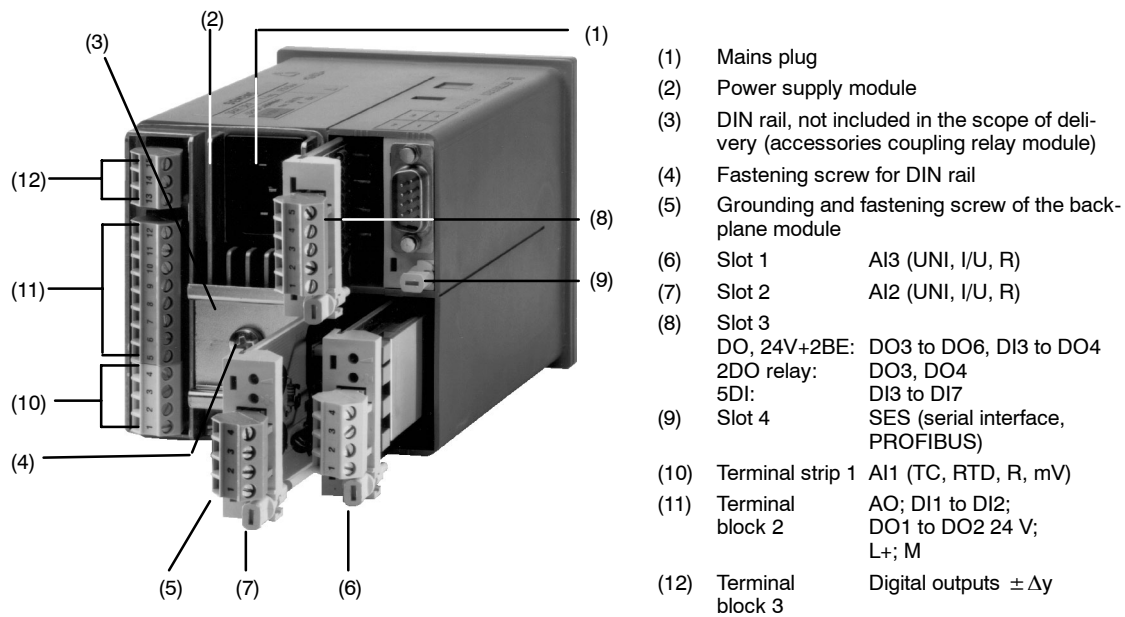
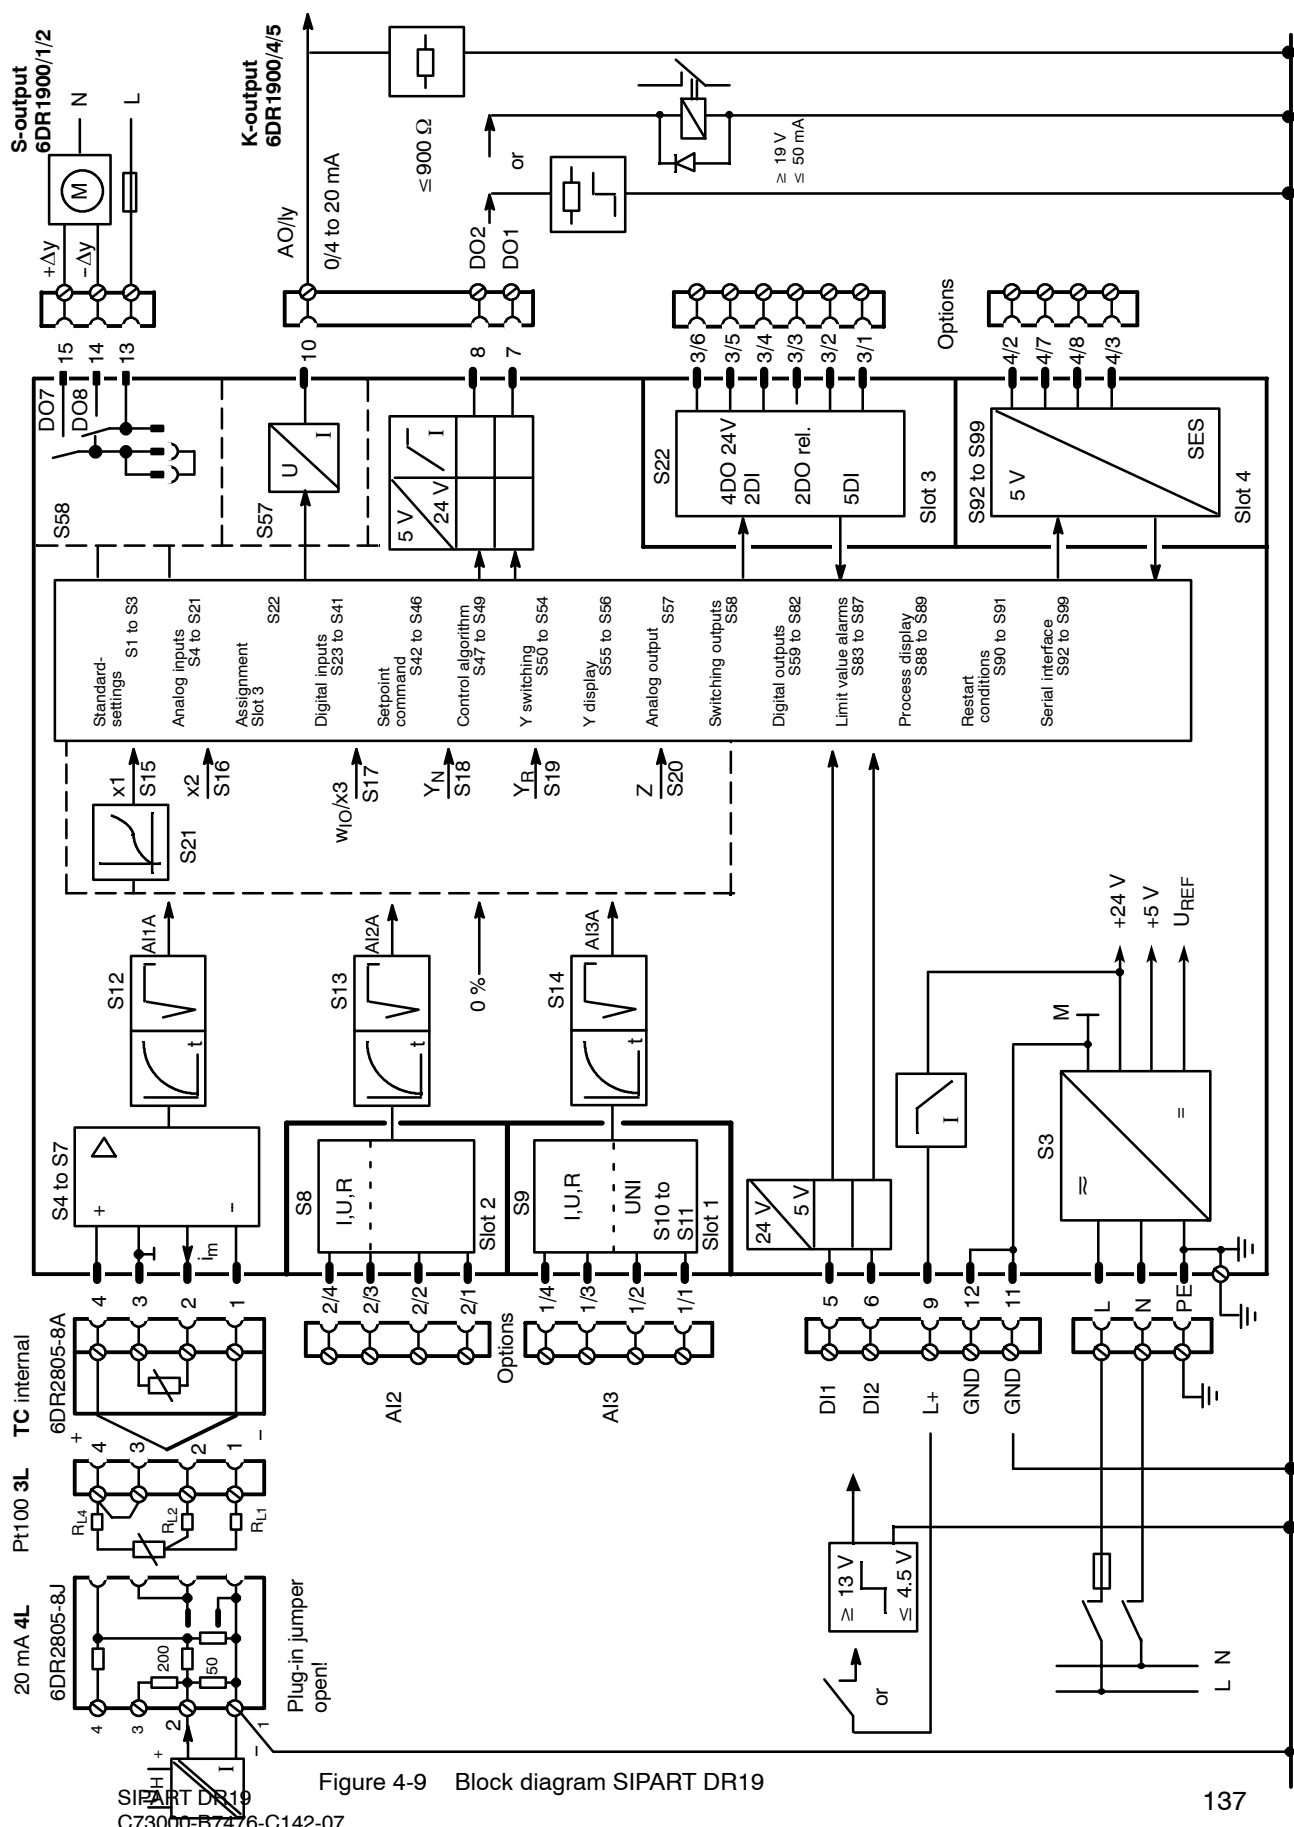

Figure 4-8 Controller backplane with terminal assignment of the standard controller
Figure 4-9 Block diagram SIPART DR19
Connect the PE conductor to the ground screw (see figure 4-8), page 136 on the back of the controller. When connecting to 115 V or 230 V AC-mains the PE conductor connection can also be fed via the three-pin plug (see figure 4-9, page 137). The controller’s ground-connection may also be connected with the PE conductor (grounded extra low voltages).
The coupling relay module should be snapped onto the DIN rail (figure 4-8, page 136) and wired to the digital outputs.
- 1) The connection between the PE conductor screw (figure 4-8, item 5, page 136) to ground must be established additionally for high electromagnetic compatibility (EMC) in 115/230 V-controllers. This connection must also be low resistive for high frequencies (Cu-band or Hf-strand). Alternatively at least 2.5 mm² strand should be used.